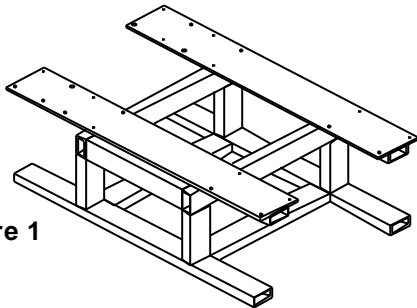

Figure 1
1. Main Fixture Base assembly (Refer Figure 1)